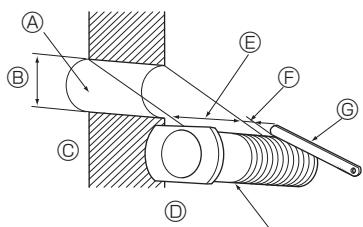

Fig. 3-6
3.4.1. Making holes (Fig. 3-6)
- ① Make Ø65 mm or Ø75 mm holes that are approximately 5–7 mm deep and angled slightly downward outward from the room.
- ② Insert the wall hole sleeves into the holes.
- (A) Wall hole
- (B) 65 mm or 75 mm dia.
- (C) Indoor side
- (D) Wall hole cross section
- (E) Wall thickness
- (F) One scale
- (G) Cut with 1 extra scale length.
- (H) Wall hole sleeve